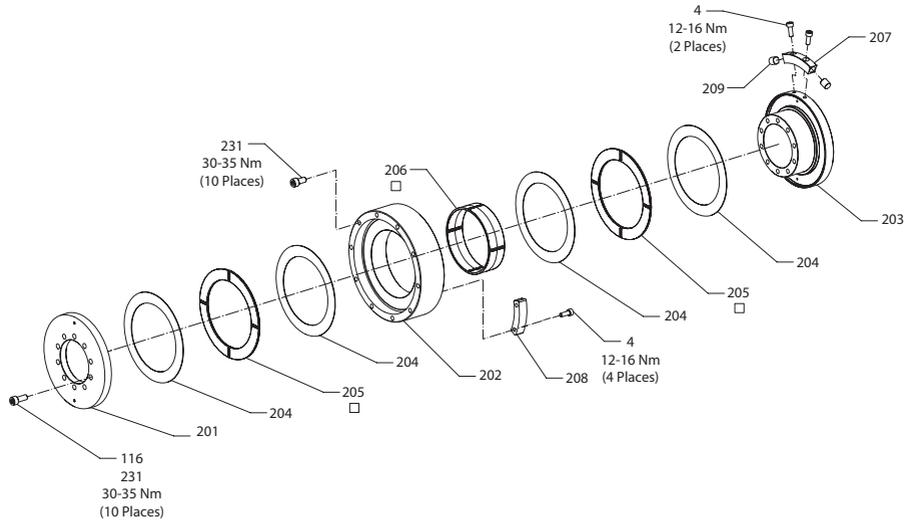

Figure 16
- Place Housing Main (203) on work table, with larger diameter face touching surface.
- Insert a Thrust Washer (204) into the cavity provided in Housing Main (203).
- Apply IR Grease #222 on both faces of Thrust Bearing (205) and place it over Thrust Washer (204) of assembly explained in step 2.
- Place another Thrust Washer (204) over Thrust Bearing (205).
- Apply IR Grease #222 over Needle Cage Bearing (206) and insert over Housing Main (203).
- Insert Rotating Part (202) over assembly explained up to step 5, guided thru Needle Cage Bearing (206). Follow orientation shown in Figure16.
- Apply grease on both sides of Thrust Bearing (205) and assemble another set of Thrust Washer (204), Thrust Bearing (205) and Thrust Washer (204) over Rotating Part (202) as shown in Figure16.
- Cover the above assembly with Side Housing (201) and secure it with fastener Cap Head Screw (116/231) along with serviceable loctite.
- Ensure free rotation of Rotating Part (202) with respect to Housing Main (203).
- Press fit two Nylon Contact for Stop Mechanism (209), at appropriate holes provided on either side of Stationary Stop Part (207).
- Place assembly of step 10 over main assembly explained upto step 9, secure them using fastener Cap Head Screw (4) with Housing Main (203), apply serviceable loctite to fastener Cap Head Screw (4).
- Then, place a pair of Rotary Stop Part (208) over Rotating Part (202) at appropriate orientation with fastener Cap Head Screw (4). Ensure Rotary Stop Part (208) placed on either side of Stationary Stop Part (207).